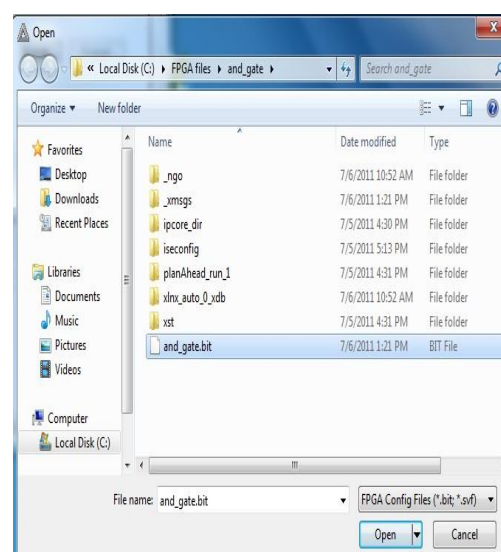

Figure 18: Choosing the bit stream file
- To download the program, click on Browse command in the first Row which says FPGA (XC3S1200E). Browse to the project folder and choose the corresponding bit file as shown below **figure 18** and click open.